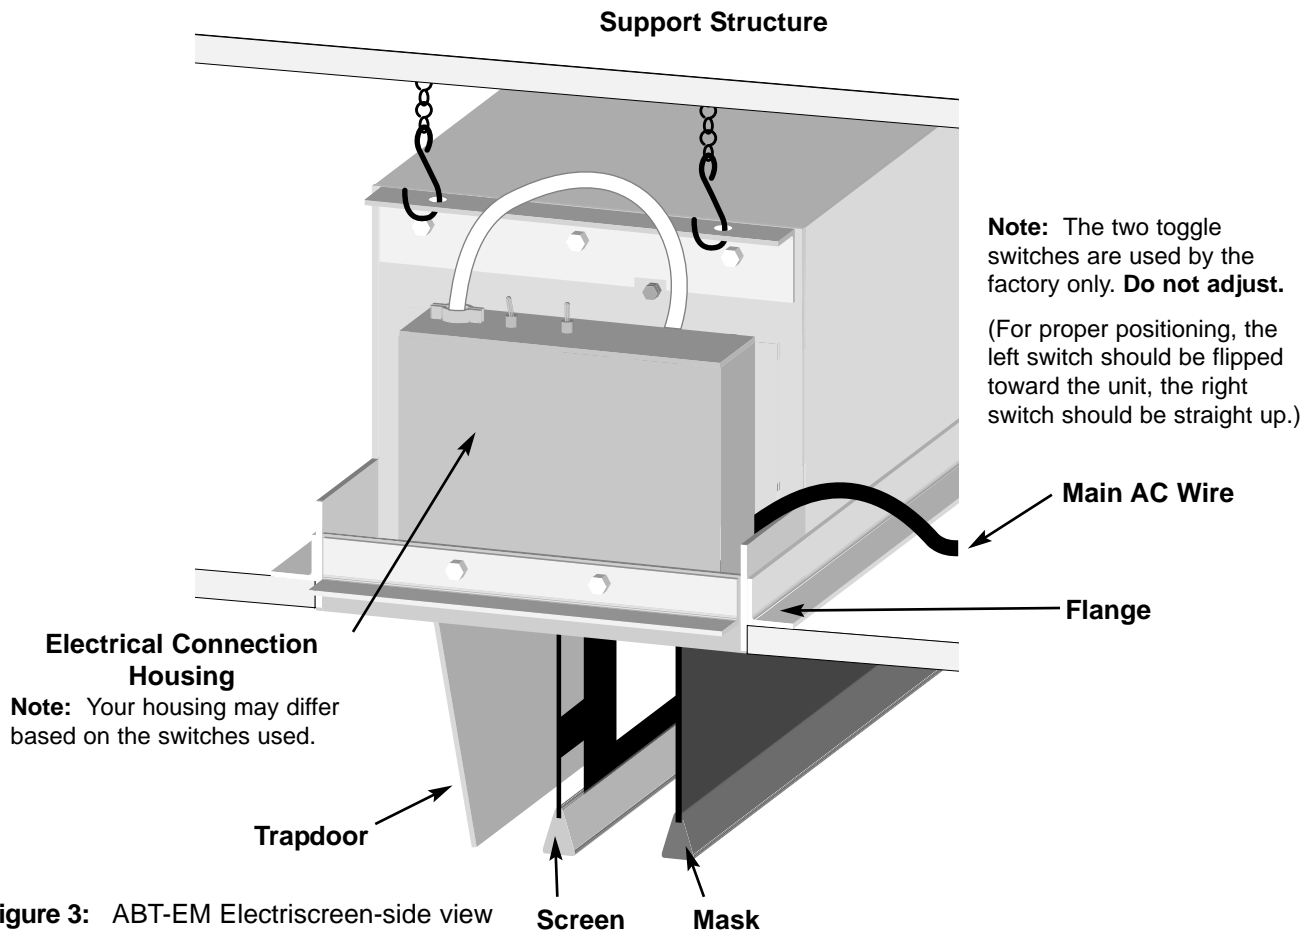

Figure 3: ABT-EM Electriscreen-side view
4. Drywall or other ceiling material may be screwed directly to the ceiling flanges on the case. Refer to Figure 3.